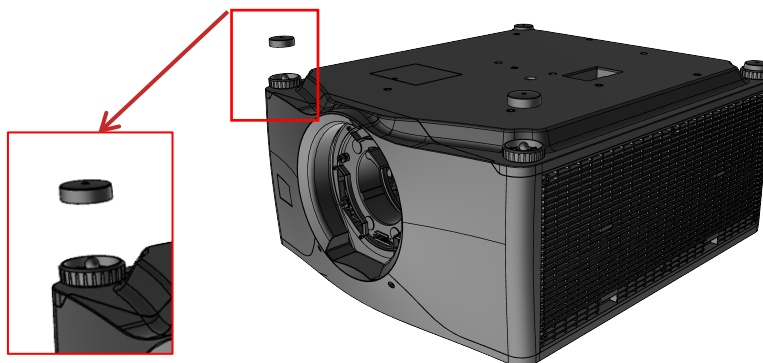

Figure 4 Removing plastic part of front feet
Step 1: Place the projector upside down on a suitable flat surface and remove the lens (if it is pre-installed). Remove the lower plastic part of the two front feet. They can be removed applying little force, see Figure 4.